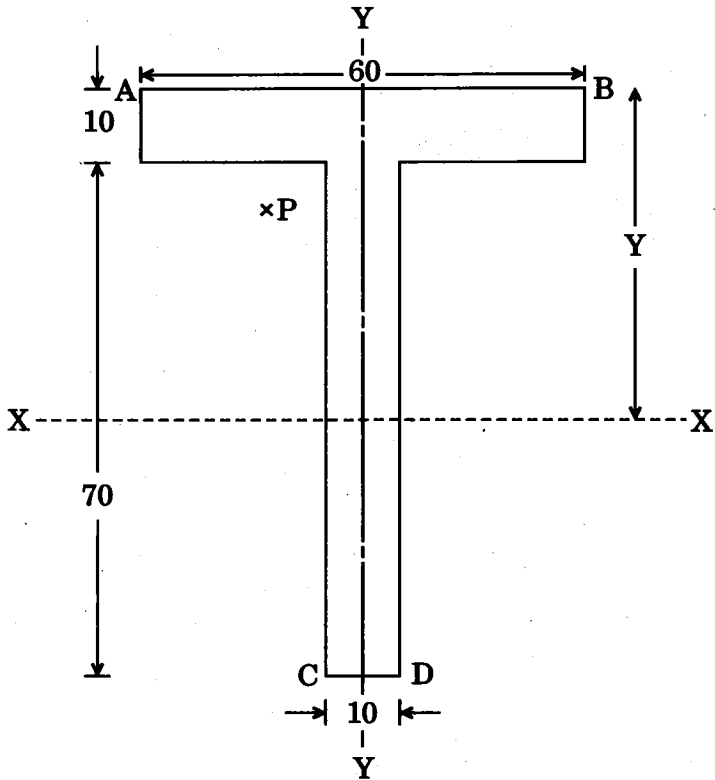

Figure 2
5. A bar of T-section as shown in Figure 2 is subjected to a longitudinal pull P applied at a point on the YY-axis but not at the centroid of the section. Determine the magnitude of P and the position of its line of section, if the stresses across the section vary from 10 N/mm^2 compression at the top to 120 N/mm^2 tension at the bottom. 10